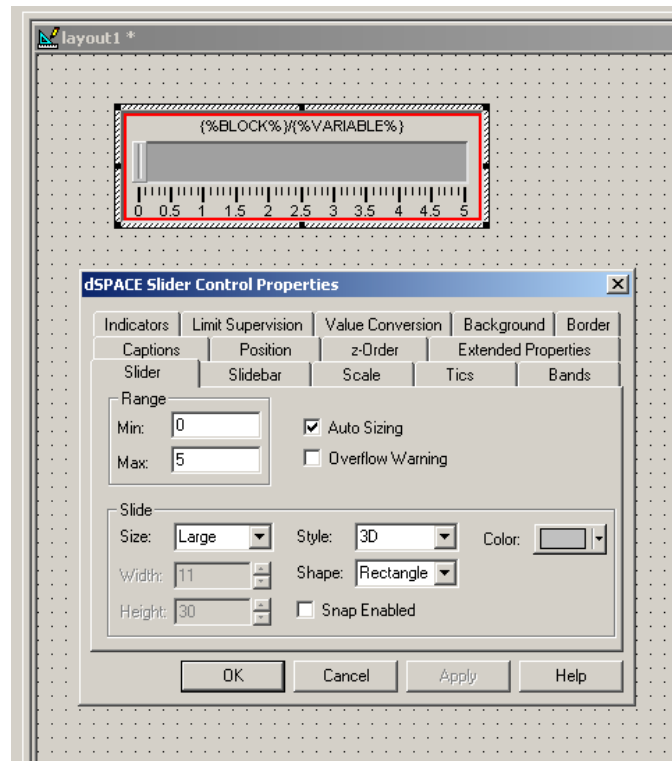

Figure 2.12: Slider Control Setting Window
- As long as we decided to use amplifications between 0 and 5, double-click the Slider control, select the Slider Tab, and set the Range Min and Range Max as shown in Fig. 2.12.